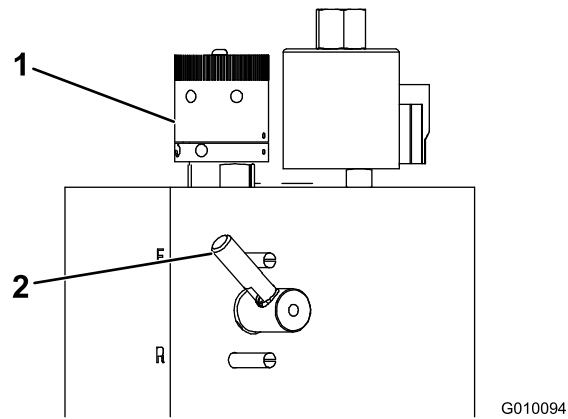

Figure 33
2. Ensure that the backlap knob is set in the Forward (F) position (Figure 33).
3. Turn the reel speed control knob (Figure 33) to the number setting determined in step 1.